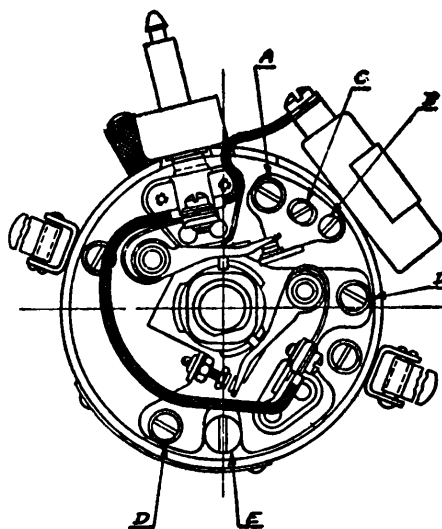

FIG. 6.
2. Adjust both sets of contact points .020 to .024 inch. (For accuracy use a thickness gauge). The fixed breaker points are adjustable for gap opening by loosening LOCK SCREW "A" (Fig. 6), and PIVOT SCREW "B", and adjusting with ECCENTRIC SCREW "C". After making correct adjustment lock both SCREWS "A" and "B". The movable breaker points are adjustable in the conventional manner by use of point wrenches.
10. If the test light shows the distributor to be out of adjustment loosen the two LOCKING SCREWS "D" (Fig. 6), and adjust by moving sub plate with ECCENTRIC SCREW "E" until proper setting is obtained. Lock SCREWS "D" after completing adjustment.